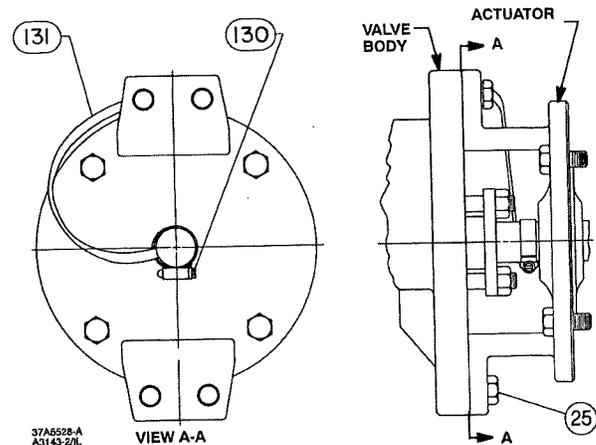

Figure 3. Optional Shaft-to-Body Bonding Strap Assembly
Attach the optional bonding strap assembly (key 131, figure 3) to the valve drive shaft (key 6) with the clamp (key 130, figure 3) and connect the other end of the bonding strap assembly to the valve body with the cap screw (key 23).
4. Standard flow direction is with the seal protector ring (key 3) facing upstream.